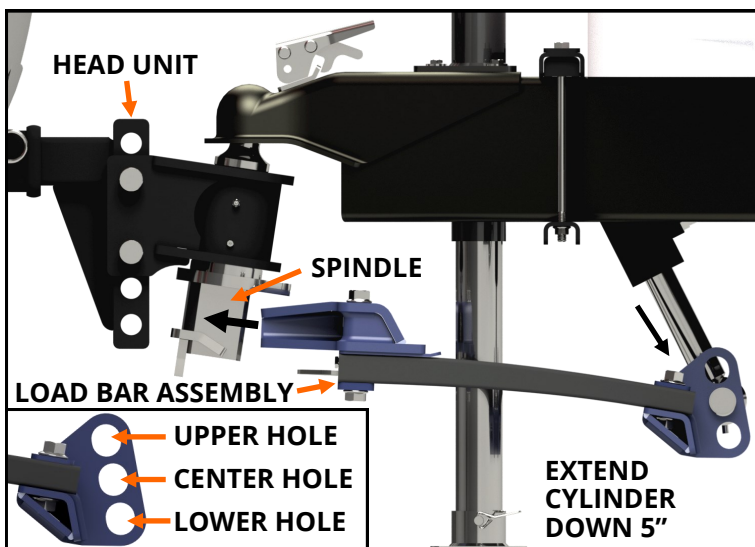

FIGURE G2: View of the driver side of the hitch.
3. **Attach the load bar assembly to the spindle.** Fully open the needle valve on the hydraulic pump. Push down on the lower cylinder mount to extend the hydraulic cylinder until it is fully extended with about 5" of chrome rod showing. Lift the load bar assembly and slide it into the bottom of the spindle of the head unit until the latch pin of the fork engages with the spindle, **see Figure G2.** If the fork does not slide into the spindle far enough to engage the latch pin, then use the upper hole in the lower cylinder mount, **see Figure G2.**